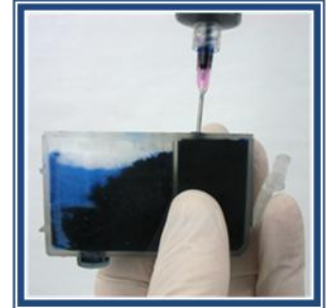

Figure 9
10. Rotate 90° again, so that the cartridge is now upright. Continue filling **slowly** until the syringe is empty (see Figure 9 and 10). **Caution:** Always fill by the amount given on the weight chart, because overfilling a cartridge may cause it to leak.